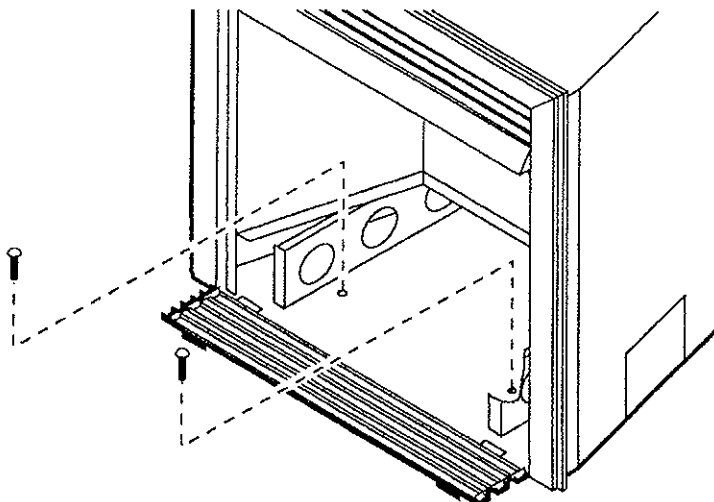

**FIGURE 6.**
- To remove the grate and base assembly, take out two screws as shown in FIGURE 6.